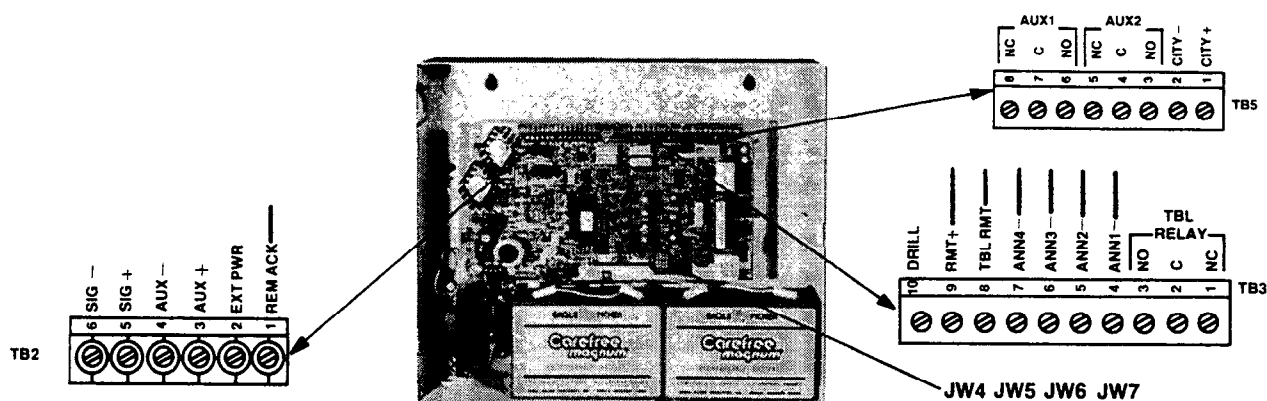

FIGURE 19
7. If using a remote annunciator or remote annunciator with remote trouble station and remote acknowledge switch, connect to panel as follows (see Fig. 19, page 24, for reference):
8. If 4001-9810 alarm relay module is used, connect it to TB2, TB3, and TB5 on the panel as follows (refer to Figure 19):